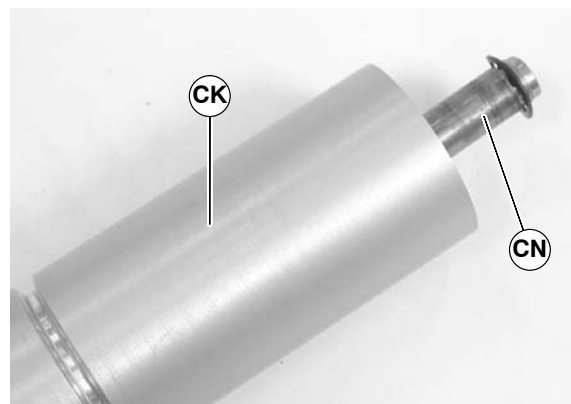

Figure 64
6. Slide the shaft assembly (CN of Figure 64) out of the pulley (CK).
6. Slide the shaft assembly (CN of Figure 64) out of the pulley (CW).